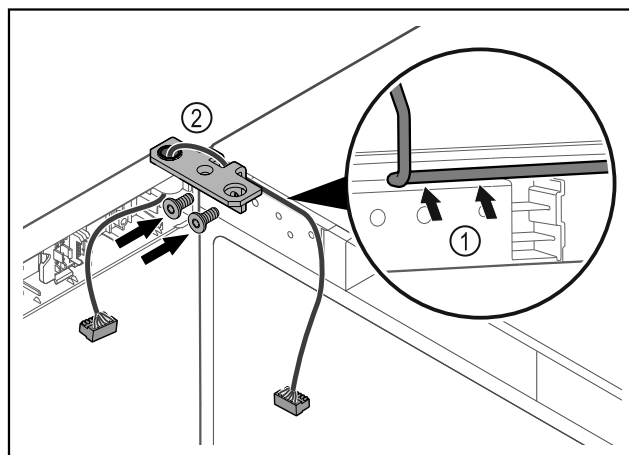

Fig. 32
- Feed the cable through the recess in the hinge and lay it carefully Fig. 32 (1).
- Screw on the hinge Fig. 32 (2).